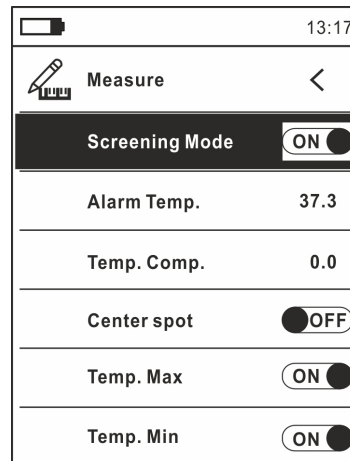

Fig. 5: Measurement Menu
4. Select the "Screening" mode, set the alarm temperature threshold and activate the visualization of the "S" (fixed central spot) cursor on the display inside the "Measure" menu (see § 5.2 – Fig.5)